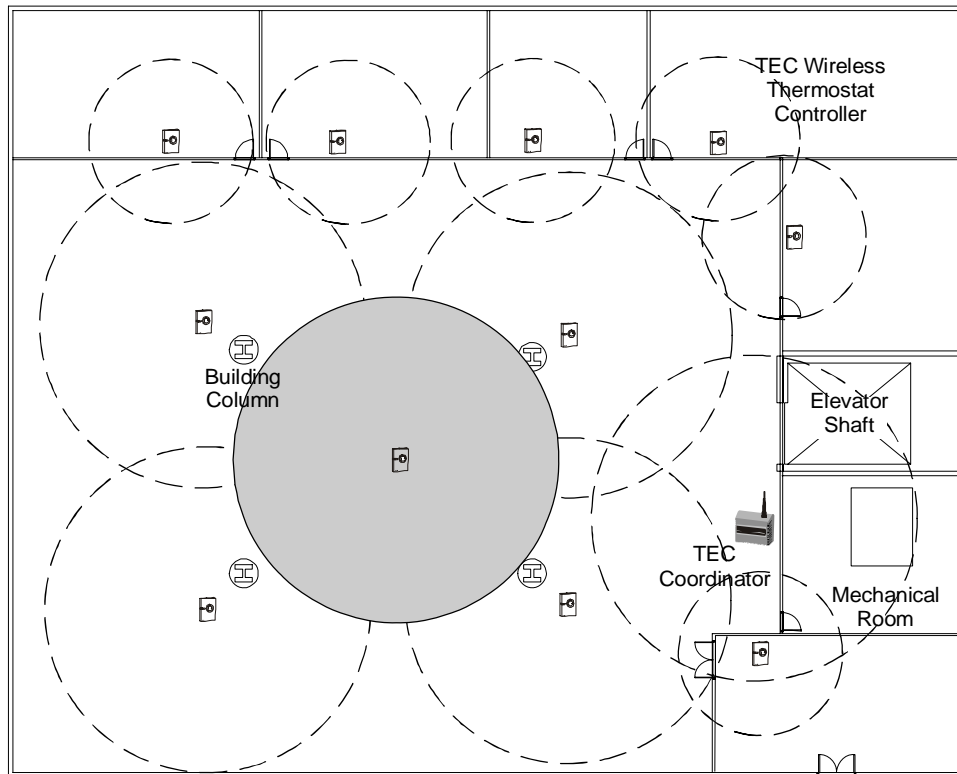

Figure 6: Add TEC Wireless Thermostat Controllers as Repeaters in Open Areas
- a. On your floor plans, draw a 30-m (100-ft) diameter (15-m [50-ft] radius) circle around each TEC Wireless Thermostat Controller used as a repeater in an open area. See Figure 6.